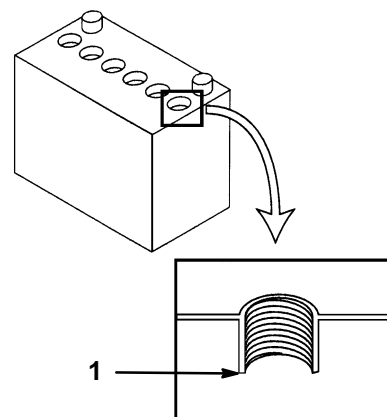

Figure 52
4. Open the cell covers to see into the cells. The electrolyte must be up to the lower part of the tube (Fig. 52). Do not allow the electrolyte to get below the plates.
2. Lift off the filler caps (Fig. 52).
3. Slowly pour distilled water into each battery cell until the level is up to the lower part of the tube (Fig. 52).